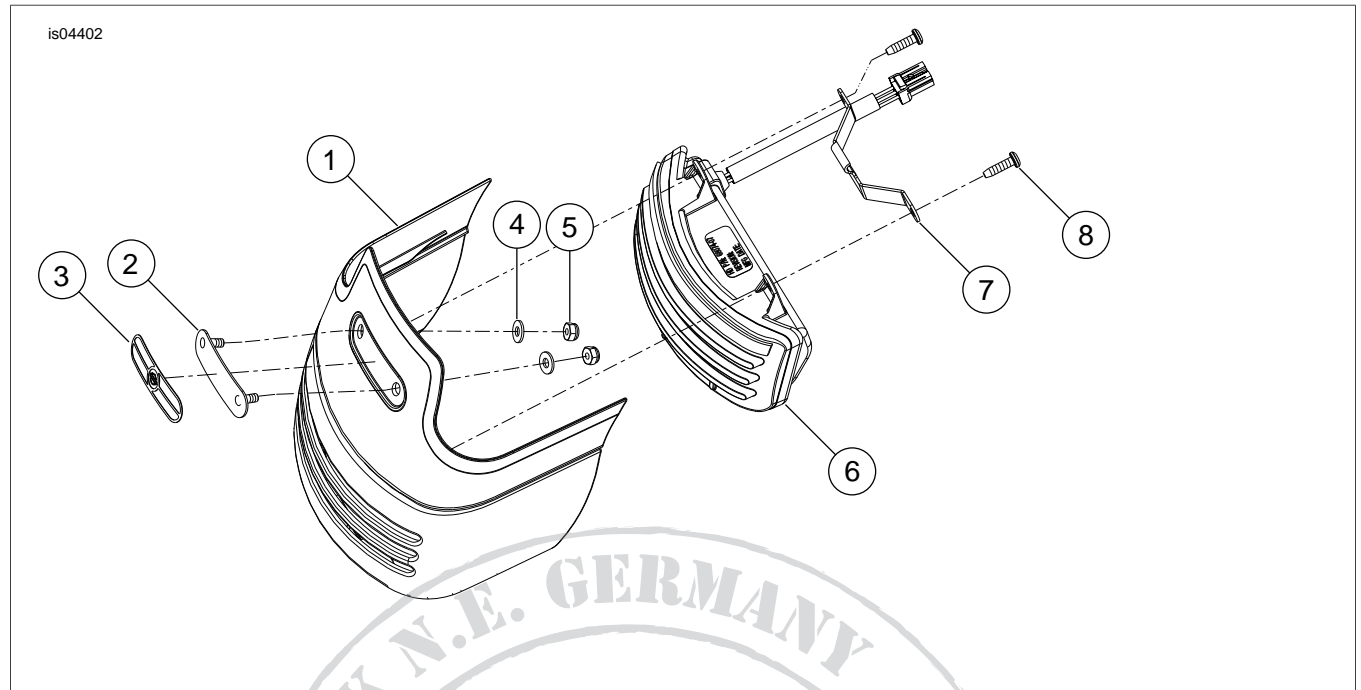

Figure 3. Service Parts: Tri-Bar Rear Fender Fascia Kit
See Figure 3 and Table 1.
1. See Figure 3 and Table 1. Snap tabs of tri-bar fender lamp (6) into slots of tri-bar housing fascia (1).
2. Position mounting bracket (7) as shown and attach to housing fascia using two self-tapping screws (8). Tighten screws to 18-22 **in-lbs** (2.1-2.5 Nm).
3. Position fascia (1) on fender to slide it up so that tab of mounting bracket (7) catches inside of fender.
4. Attach fascia to fender using stud plate (2), washers (4) and nuts (5). Tighten nuts to 10-40 **in-lbs** (1.1-4.5 Nm).
- g. Position fascia (1) on fender to slide it up so that tab of mounting bracket (7) catches inside of fender.
- h. See Figure 3 and Table 1. Attach fascia to fender using stud plate (2), washers (4) and nuts (5). Tighten nuts to 10-40 **in-lbs** (1.1-4.5 Nm).